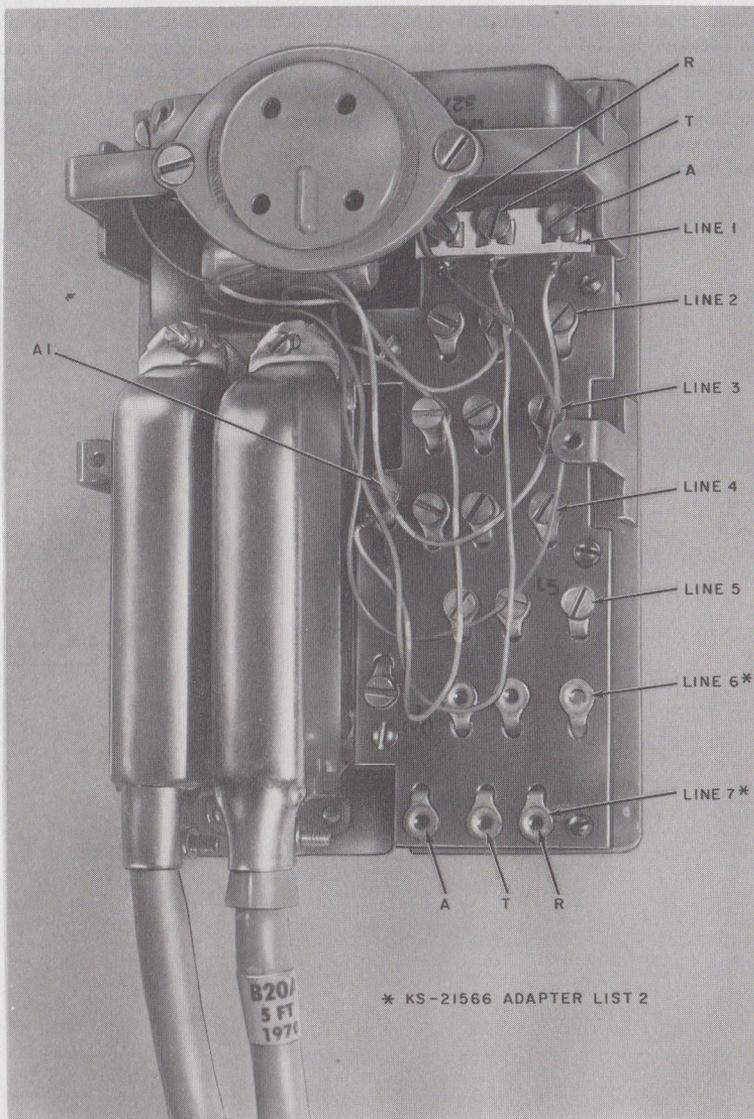

Fig. 1—KS-21566 Adapter
3.01 Interface termination JTA consists of a supervisory relay to provide A-lead control for any one line of a KTS. A KS-21566 adapter (Fig. 1) provides the interface between the approved telephone answering devices and the KTS.
4.01 The KS-21566 adapter is furnished in two versions. The List 1 provides access to any of the first five lines in telephone sets using the standard wiring arrangement in 1A2 KTS. The List 2 provides access to any one of seven lines and is wired compatible with the 7A and 14A Communication Systems (COM-KEY*). The 4-prong jack provides the line termination to the CPE. The line furnished to the jack is determined by the position of the wafer strip (Fig. 1).
6.02 Use a List 1 adapter and connect by disconnecting set mounting cord from the connector cable and installing ends in the proper plug and connector on the adapter. Move wafer strip to screw terminals accessing desired line (Fig. 1).